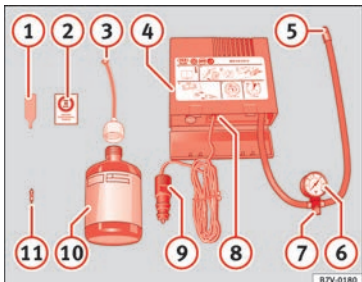

Fig. 67 Standard representation: contents of the anti-puncture kit.
- Unscrew the tyre valve cap and insert. Use the » Fig. 67 ① tool to remove the insert. Place it on a clean surface.
- Shake the tyre sealant bottle vigorously » Fig. 67 ⑩.
- Screw the inflator tube » Fig. 67 ③ into the sealant bottle. The bottle's seal will break automatically.
- Remove the lid from the filling tube » Fig. 67 ③ and screw the open end of the tube into the tyre valve.
- Place the insert back into the tyre valve using the tool » Fig. 67 ①.
- Screw the compressor tyre inflator tube » Fig. 67 ⑤ into the tyre valve.
- Check that the air bleed screw is closed » Fig. 67 ⑦.
- Insert the connector » Fig. 67 ⑨ into the vehicle's 12-volt socket » page 148.
- Turn the air compressor on with the ON/OFF switch » Fig. 67 ⑧.